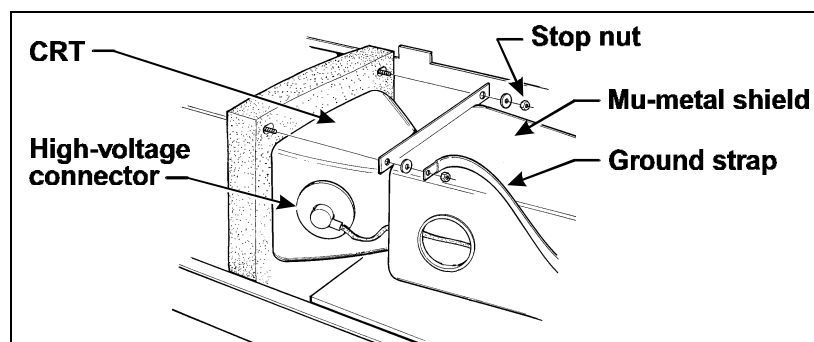

Figure 5-16. Removing the large Mu-metal shield
7. Remove the two stop nuts and washers securing the Mu-metal shield and the ground strap to the light box (Figure 5-16).
8. Slide the Mu-metal shield back far enough to expose the high-voltage connector on the CRT (Figure 5-16).